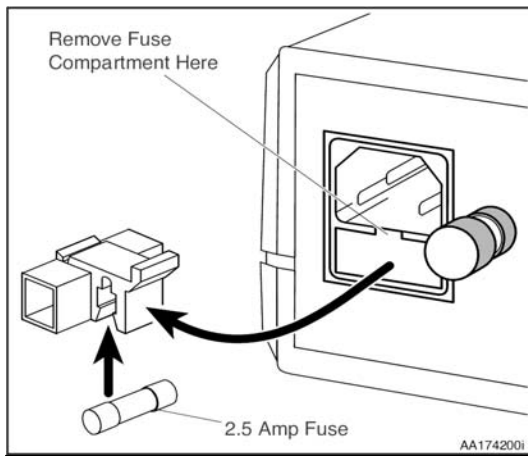

Figure 5 Domestic Fuse Replacement
2. Remove the fuse compartment, as shown in Figure 5.